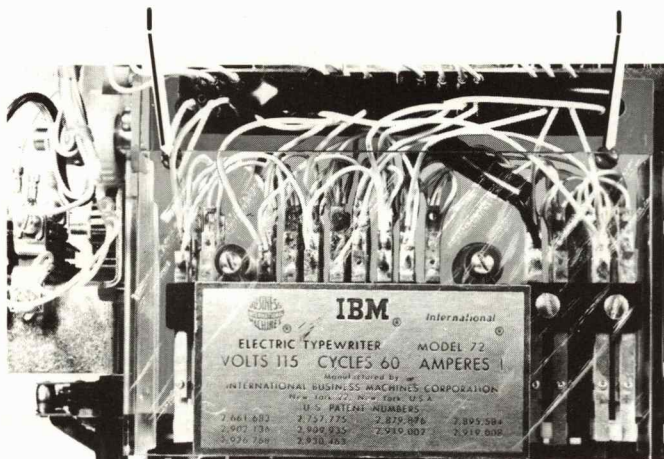

FIGURE 20. Rotate Selection Differential Removal
- \* 3. Remove the two screws (#1, Figure 20) that hold the plate to the frame. Remove the contact assembly, holding it to the front with a rubber band.